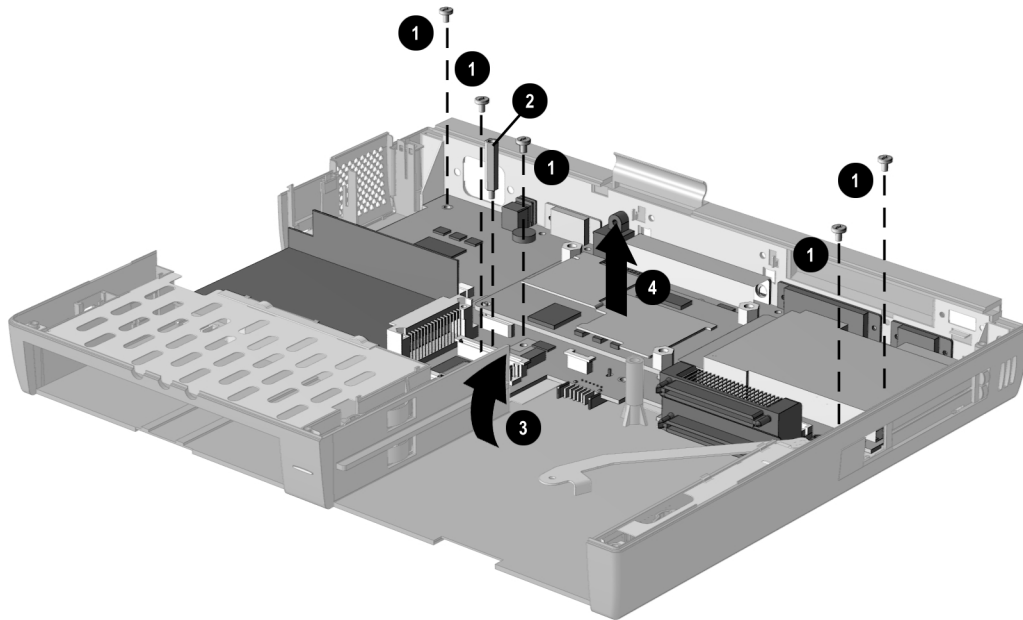

Figure 5-56. *Removing the System Board*
24. Remove the five screws ❶ and the standoff ❷ that secure the system board to the base assembly (Figure 5-56).
26. Lift the front edge of the system board ❸. When the front edge of the system board clears the base assembly, lift the board straight up and out of the base assembly ❹.